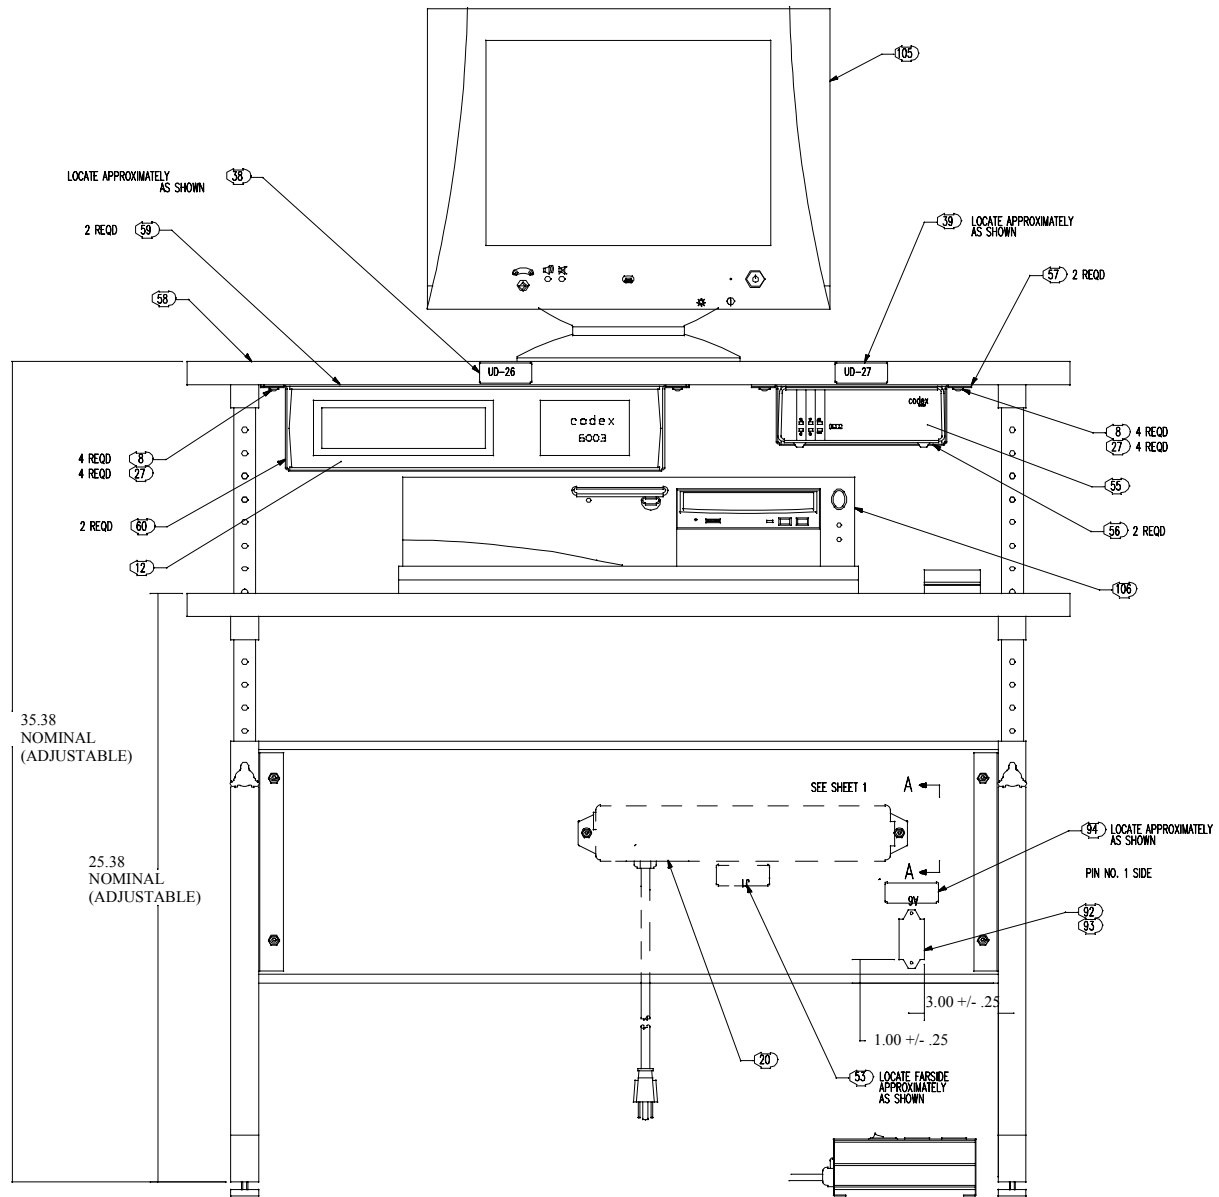
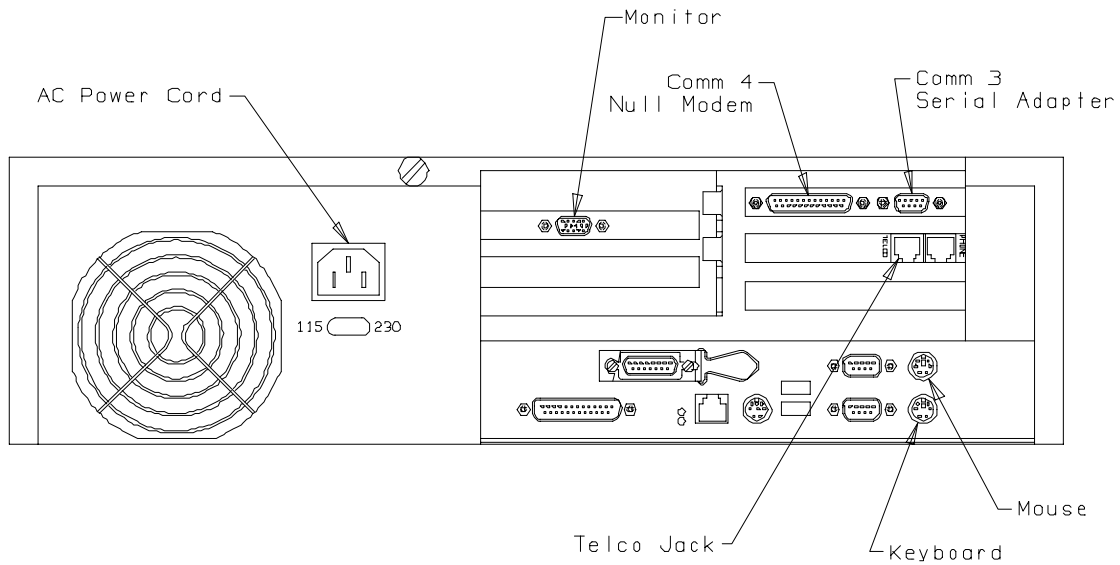

Figure 9 Yongsan AB Configuration
Figure 11 CPU Connection Points
- (1) Assemble the UCP table by performing the following steps (See Figure 9):
- (a) Position the Central Processing Unit (CPU)(item 106) on the UCP stand desk area. (See Figure 9)
- (e) Position the surge suppressor (Isotel4, UD34E1) on the floor behind the UCP stand (item 109).
- (f) Connect the 9 pin side of the 9-25 pin serial adapter (part no. 2200025-201)(item 110) to the installed communications card of the CPU. Connect the "P2" end of cable assembly (W900, item 116) to the 25 pin connector of the 9-25 pin serial adapter. Connect the "P1" end of cable assembly W900 to the CH2 port of the Statmux (UD26, item 12). (See Figure 9 and Figure 11.)
- (g) Connect the female end of the Null Modem adaptor (part no. 2200021-201)(item 111) to the installed communications card of the CPU. Connect the P2 end of cable assembly W901 (item 117) to the other end of the Null Modem. Connect the P1 end of cable assembly W901 (item 117) to the CH1 port of the Statmux (item 12).
- (h) Connect the end of the new 10 foot telephone cord (part no. 2320002-304)(item 120) 34W902 labeled P2(E1) to the CPU modem TELCO jack and the other end to the surge suppressor (Isotel4) OUT jack (cable end labeled 1CP1).
- (i) Connect the CPU monitor video cable to the CPU monitor jack. (See Figure 11)
- (j) Connect the mouse to the CPU mouse jack. (Green upper port)(See Figure 11)